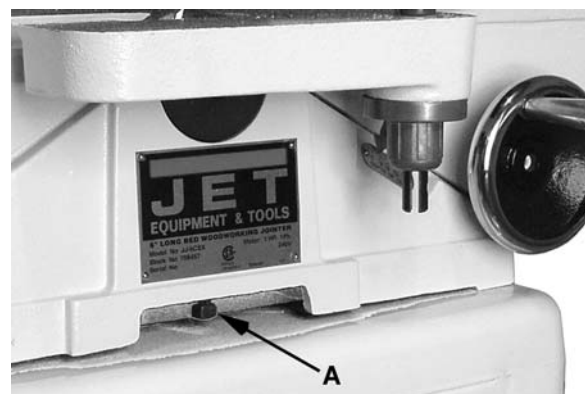

Figure 44
6. Using an 8mm hex wrench, loosen two hex cap screws underneath *fence base casting* (E) that secure the casting to the *table* (F). Remove the *fence base casting* and set aside.
7. Remove four *screws* and *washers* (A) securing the *belt guard* (B). Remove the *belt guard*.
8. Remove the *V-belt* (C) from the cutterhead pulley (D). If necessary, loosen the *motor mounting screws* with a 12mm wrench to provide slack on the V-belt.
9. Using a 3mm hex wrench, loosen two set screws that secure the *cutterhead pulley* (D) to the cutterhead shaft. Set the pulley and shaft key aside.
10. Using a 14mm wrench, remove two *screws* (A, Fig. 44) and *lock washers* that secure the cutterhead bearing housings to the base.